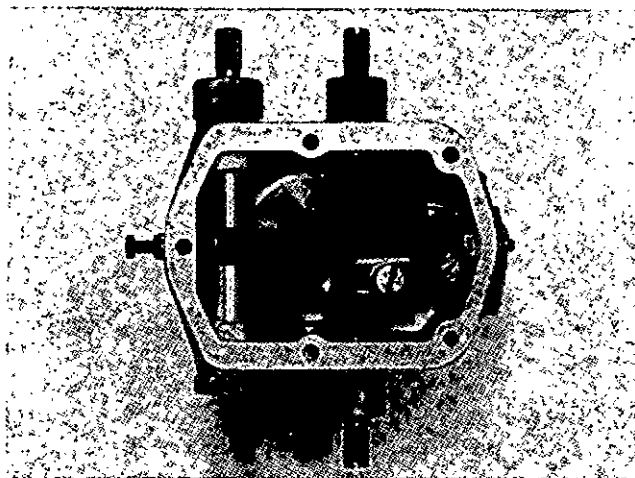

Fig. 9-15, (NG33). The inside adjustment screw for the speed droop.
1. Remove the top cover from the governor to see the speed droop mechanism and adjustments, Fig. 9-15.